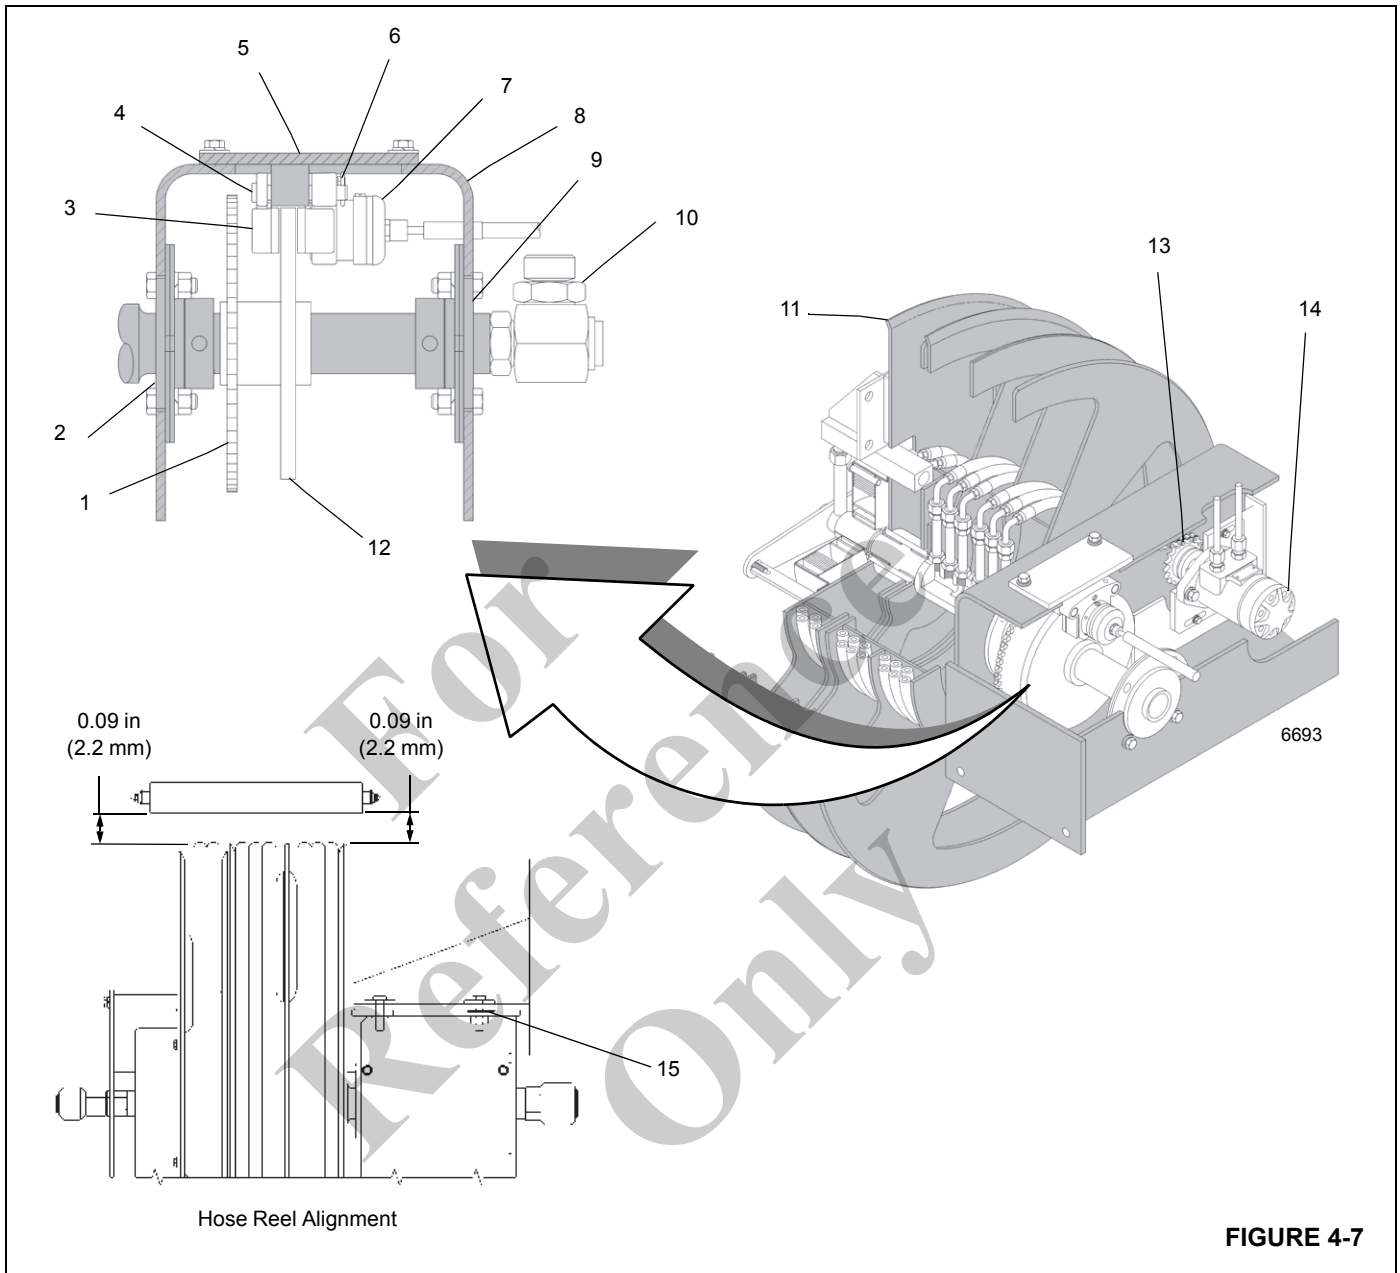

FIGURE 4-7
3. Assemble brake (Figure 4-7) onto brake disc and adjust as follows:
4. Install sprocket (Figure 4-7) as follows:
5. Install chain. Use the lockwasher, flatwasher and hex nut to apply tension. Measure chain slack near the center of chain span. Chain slack should be 0.25 in  $\pm$  0.12 (0.6 cm  $\pm$  0.3)(Figure 4-7).